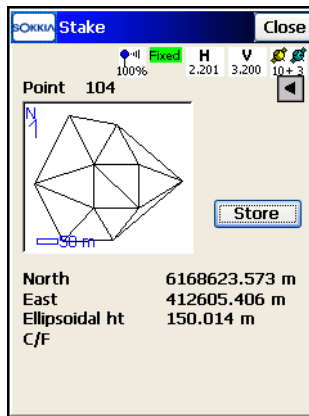

Figure 9-50. GPS Stakeout
6. For GPS+: use the information on the *Stakeout* screen for finding the target. Tap **Store** after the position is close enough to the desired point (Figure 9-50 on page 9-38).